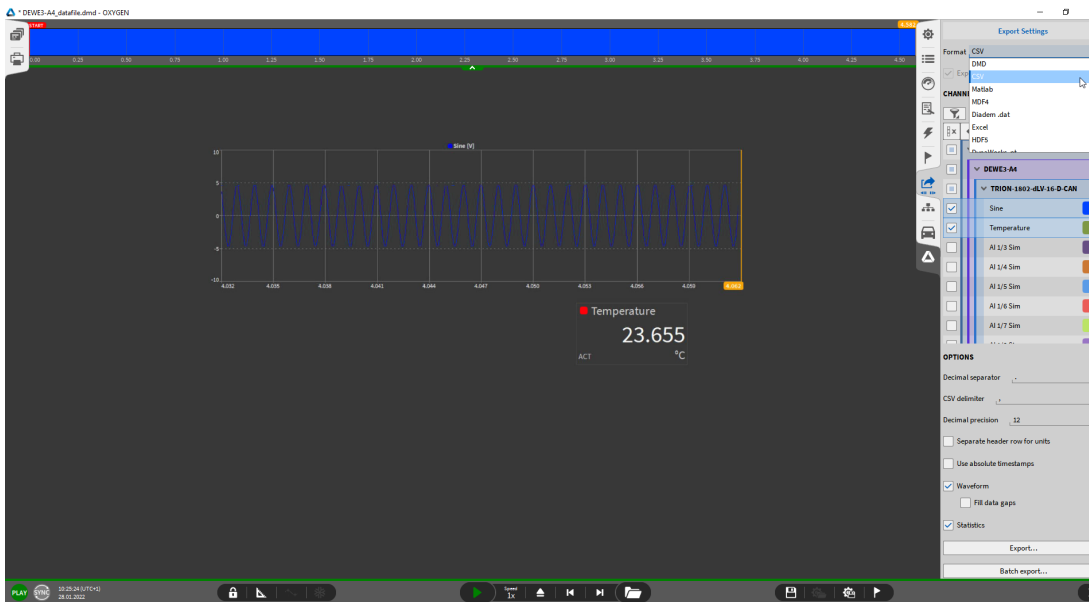

Fig. 32: Exporting data file for post-processing
The green border and PLAY indicator in the lower left corner indicate that a file is loaded for post-processing (see Fig. 32).
4. Click on the export button seen in Fig. 32.